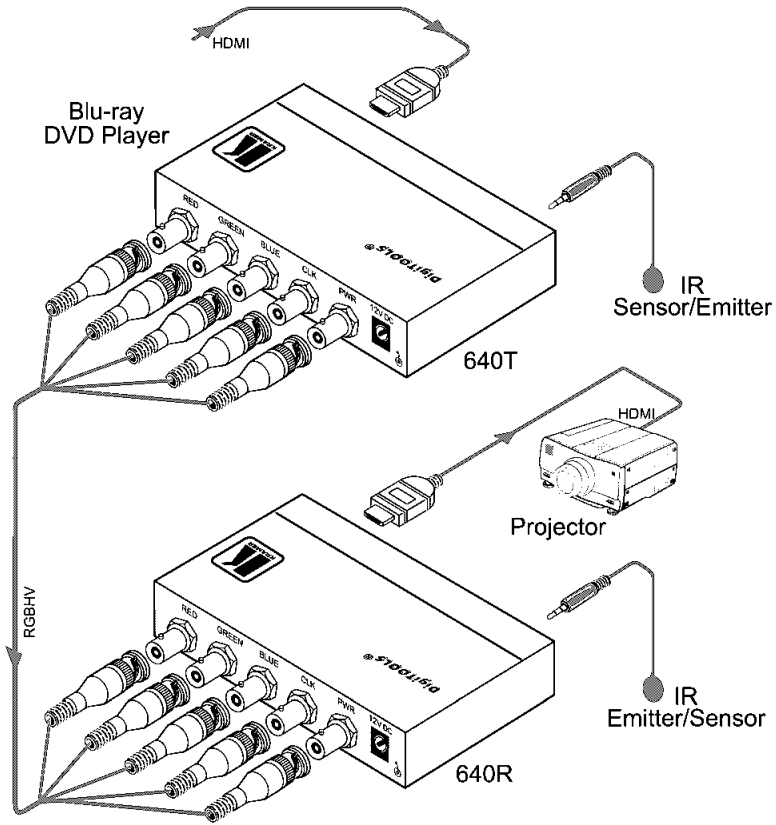

Figure 3: HDMI-to-Coax Transmitter and Receiver System
You can use the **640T HDMI-Coax Transmitter** and the **640R Coax-HDMI Receiver** to configure an HDMI-to-Coax Transmitter and Receiver system (see *Figure 3*).
To connect the HDMI-to-Coax Transmitter and Receiver system as shown in the example in *Figure 3*, do the following:
- Connect 12V DC power supplies to both the **640T** and the **640R** (not shown in *Figure 3*). The remote power and IR remote control functions are not available
- Connect one 12V DC power supply to either the **640T** or the **640R** (not shown in *Figure 3*). Power and the IR remote control function are transmitted over the power coax connection to the second device